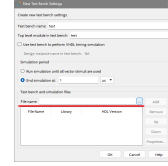

Figure 21: Navigate to "test.v" file
12. Navigate to the "test.v" file and select it. (Figure 21)